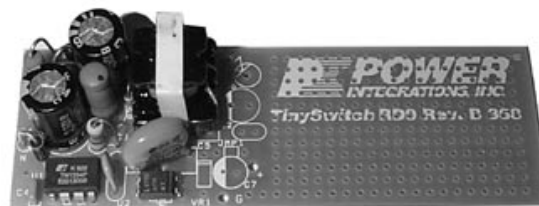

Figure 8. Combined RD8 and RD9.
- Fit the primary half of RD8 and the secondary half of RD9 together, using T1, C5, and U2 removed from the RD8 board to bridge between the two board halves (Figure 8). A different transformer can be substituted for T1. Use the cores and bobbins suggested in the text for best mechanical fit.